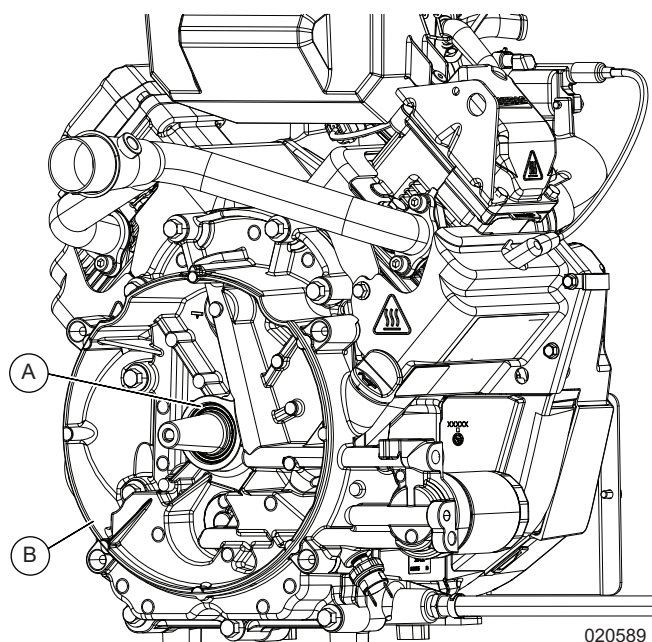

Figure 8-1. Install Oil Seal Into Gear Cover
1. See Figure 8-1. Press the crankshaft PTO oil seal (A) into the gear cover assembly (B) until seal is fully seated against bottom of bore.